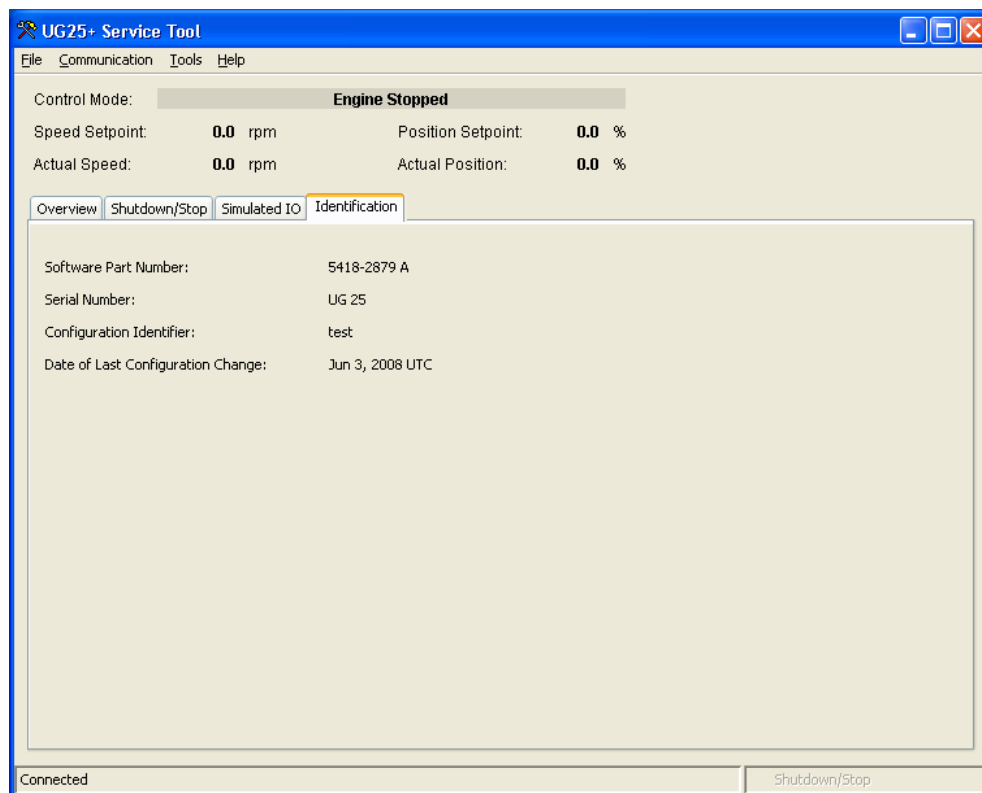

Figure 5-6. Service Tool – Identification Tab
- Identification (see Figure 5-6)